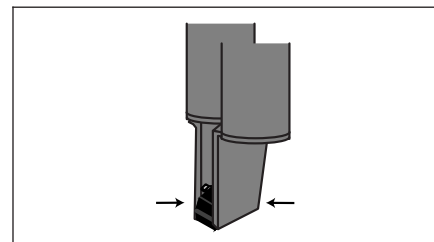

Figure 3 Melt All Joints
8. Confirm solder melt of ALL joints and lift component from PCB. (See Figures 3 & 4.)